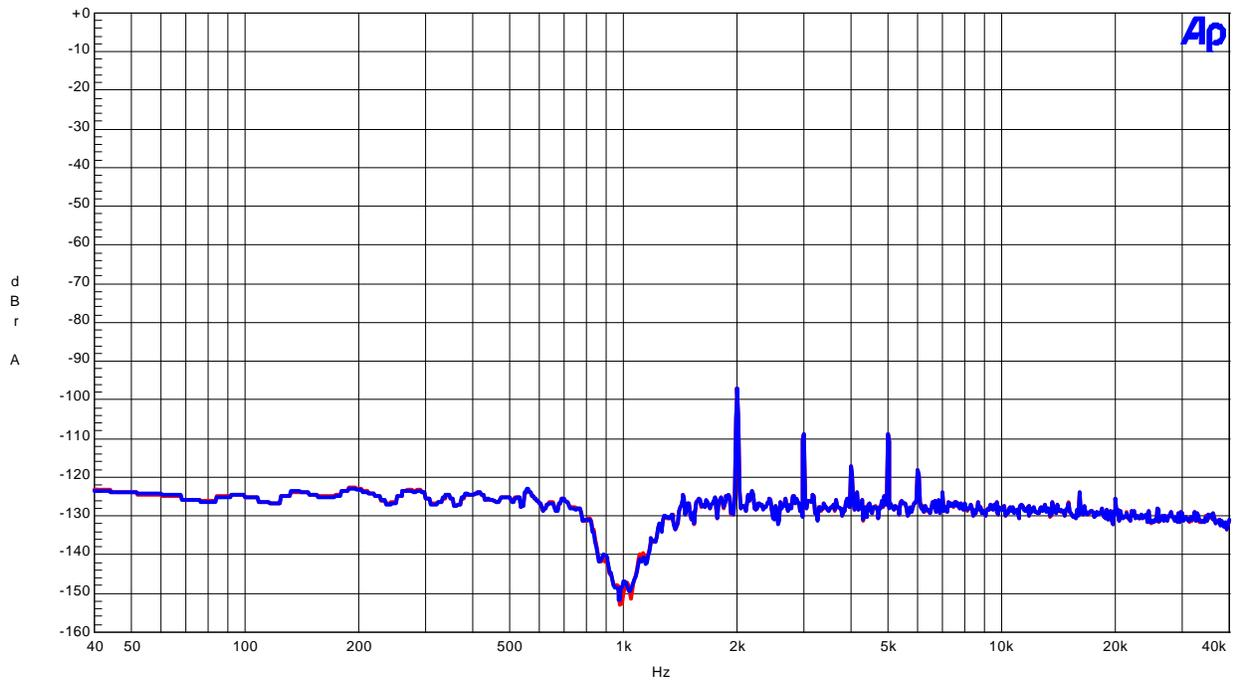

Figure16. FFT (1kHz, 0dBFS input, Notch=ON)
- Figure16. FFT (1kHz, 0dBFS input, Notch=ON)